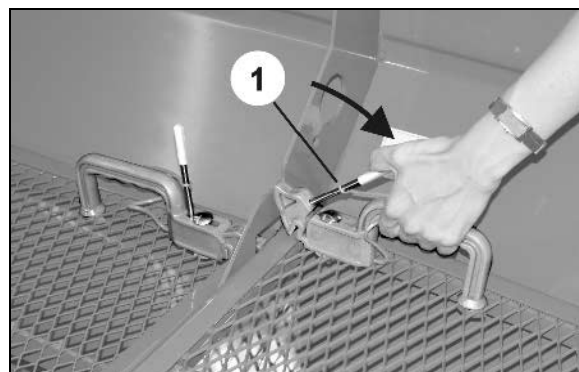

Fig. 23
- (Fig. 23/1) Unlocking position for swivelling the guard screen upwards
2. Hold on the handle and turn the unlocking tool towards the handle (Fig. 23).